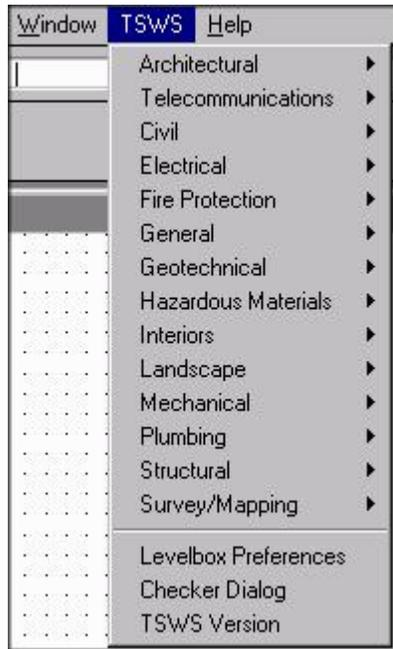

Figure 5 – Opening the Levelbox Preferences
2. Pick *Levelbox Preferences* from the bottom of the pull-down (Figure 5).